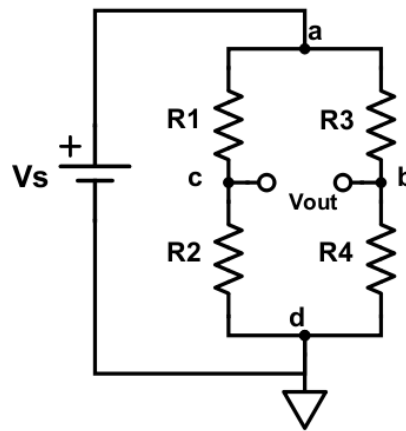

Figure 4: Wheatstone Bridge. Output is measured as the difference in voltage between nodes b and c.
2. **Wheatstone Bridge** The WB (Figure 4) is very commonly used topology to sense change in resistance. Resistance may be a surrogate for changing light intensity; humidity; material properties, mechanical deformation, etc. The main claim to fame of the WB is that its output is (approximately) linear with the change in resistance. Linearity is highly prized in many physics and engineering applications.